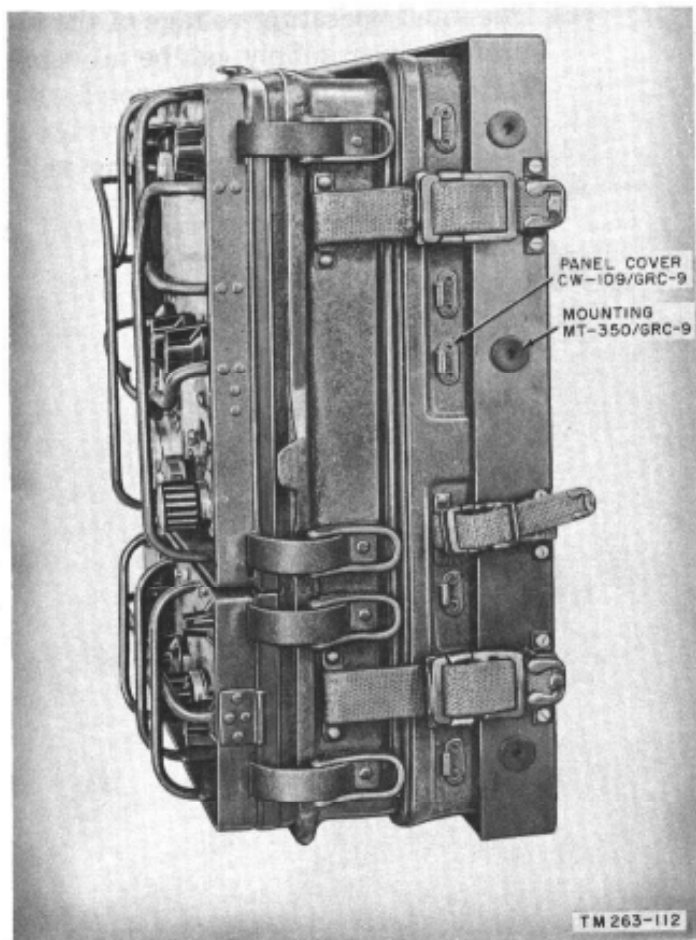

Figure 37. Receiver-transmitter mounted for vehicular use.
c. Remove Panel Cover CW-109/GRC-9 from the receiver-transmitter (par. 32*a*(1)) and replace the latches on the case to the projections on the receiver and transmitter sections (par. 32*a*(2)). For normal operations, place the cover between the receiver-transmitter and Mounting MT-350/GRC-9 (fig. 37).
Caution: When removing the panel cover, be sure to refasten the latches to the receiver-transmitter chassis (fig. 37).